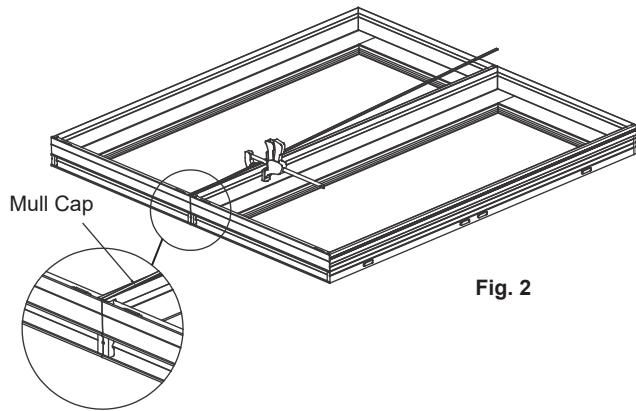

Fig. 2
- Starting at one end of the unit. Using a plastic headed hammer, pound the mull cap into the accessory grooves at the mull until it is seated firmly against the cladding. See Figure 2.